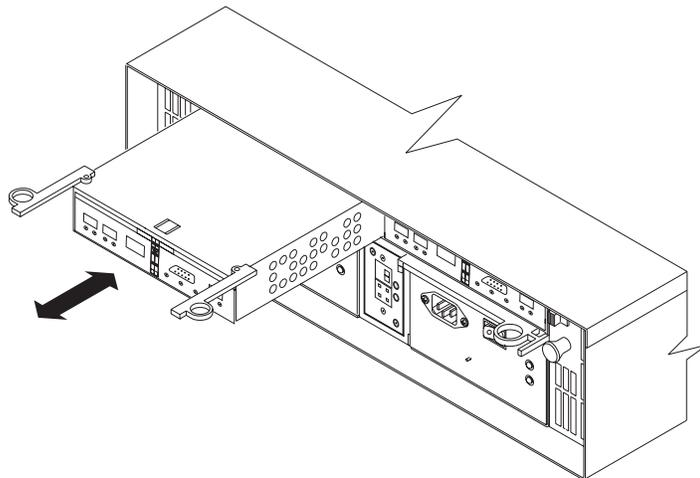

Figure 82. Pull-rings for removing a controller
- b. Grasp the pull-rings (see Figure 82), then pull on the levers and remove the RAID controller.